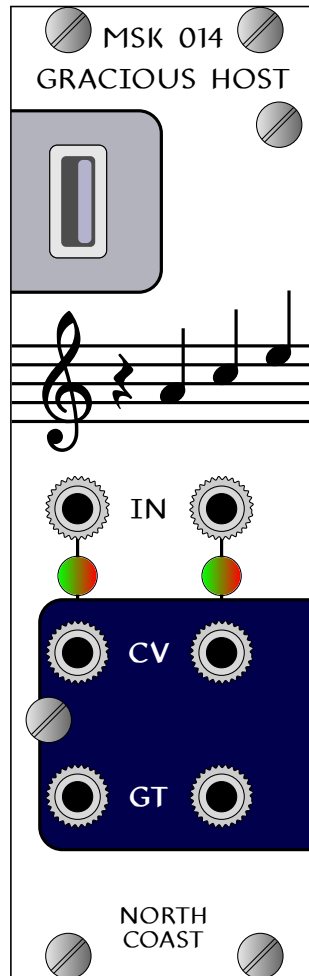

Figure 1: Module front panel.
The front panel of the Gracious Host is shown in Figure 1. The fragment of music notation on the panel spells GRACE as a pun on the module name: treble clef (G clef); quarter-note rest (R); and the three notes A, C, E.